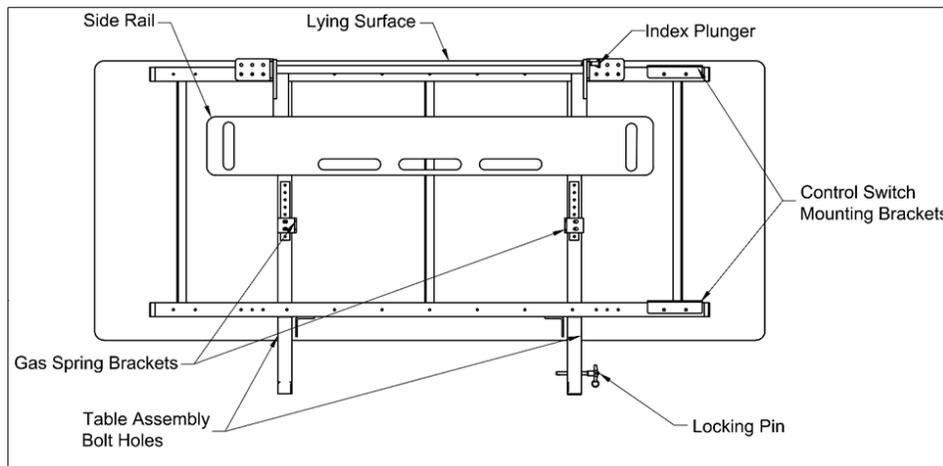

Figure 2- Table Assembly
- **Table Assembly** – Pre-assembled tabletop with solid phenolic lying surface, folding side rail, and manual locking pin (refer to Figure 2).